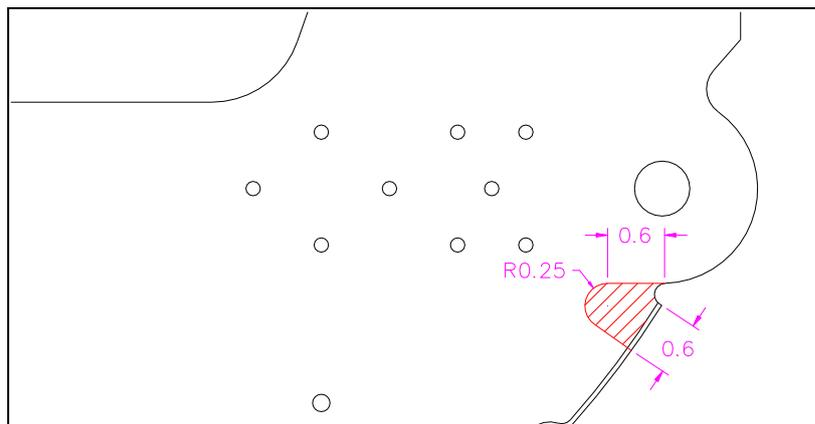

Figure 4: Rib modification
6. Remove minimum material within the shaded area in Figure 4, sufficient to remove the crack and achieve maximum radius.